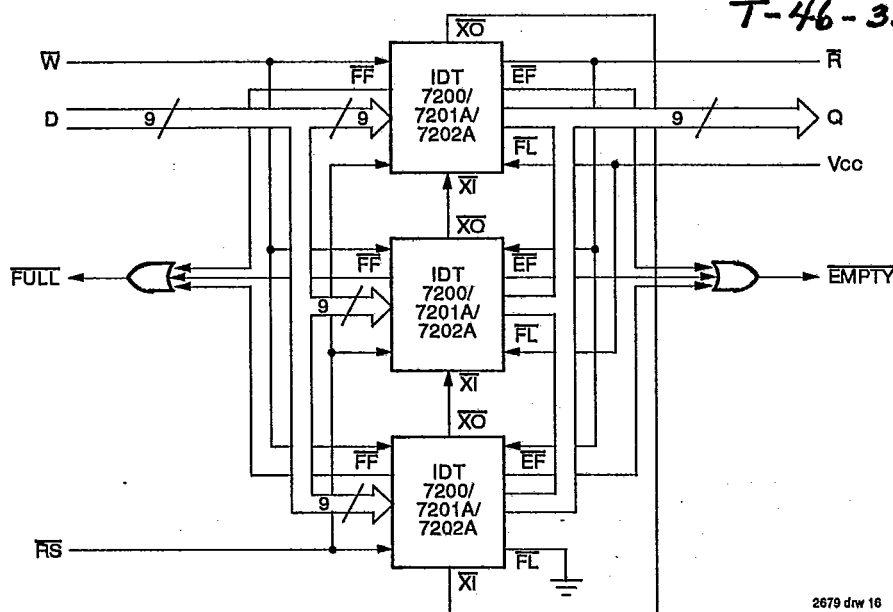

Figure 14. Block Diagram of 768 x 9/1536 x 9/3072 x 9 FIFO Memory (Depth Expansion)
The IDT7200/7201A/7202A can easily be adapted to applications when the requirements are for greater than 256/512/1024 words. Figure 14 demonstrates Depth Expansion using three IDT7200/7201A/7202As. Any depth can be attained by adding additional IDT7200/7201A/7202As. The IDT7200/7201A/7202A operates in the Depth Expansion mode when the following conditions are met:
3. The Expansion Out ( $\overline{XO}$ ) pin of each device must be tied to the Expansion In ( $\overline{XI}$ ) pin of the next device. See Figure 14.
4. External logic is needed to generate a composite Full Flag ( $\overline{FF}$ ) and Empty Flag ( $\overline{EF}$ ). This requires the ORing of all  $\overline{EF}$ s and ORing of all  $\overline{FF}$ s (i.e. all must be set to generate the correct composite  $\overline{FF}$  or  $\overline{EF}$ ). See Figure 14.
1. XI is connected to XI of previous device. See Figure 14. RS = Reset Input, FL/RT = First Load/Retransmit, EF = Empty Flag Output, FF = Flag Full Output, XI = Expansion Input, HF = Half-Full Flag Output
1. For depth expansion block see section on Depth Expansion and Figure 14.